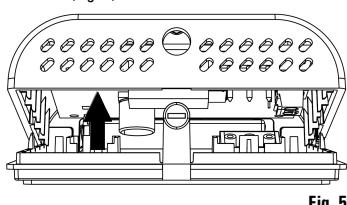

Fig. 5
- Lift up the cover, while pressing it slightly, until it is fully extracted (Fig. 5).